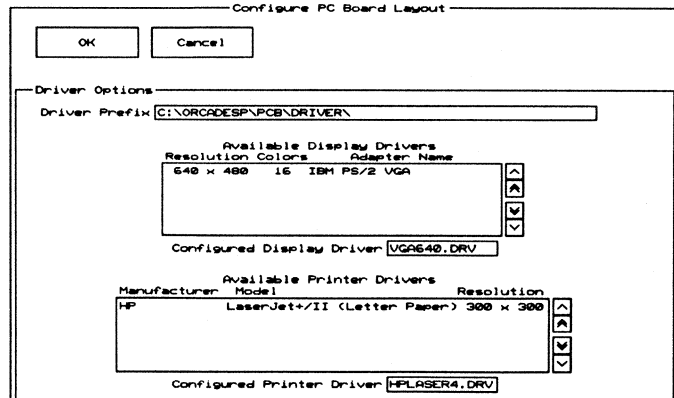

Figure 4-2. Top of the *Configure PC Board Layout* screen.
1. Select **Edit Layout**, then select **Configure Layout Tools**. The **Configure PC Board Layout** screen displays (figure 4-2).